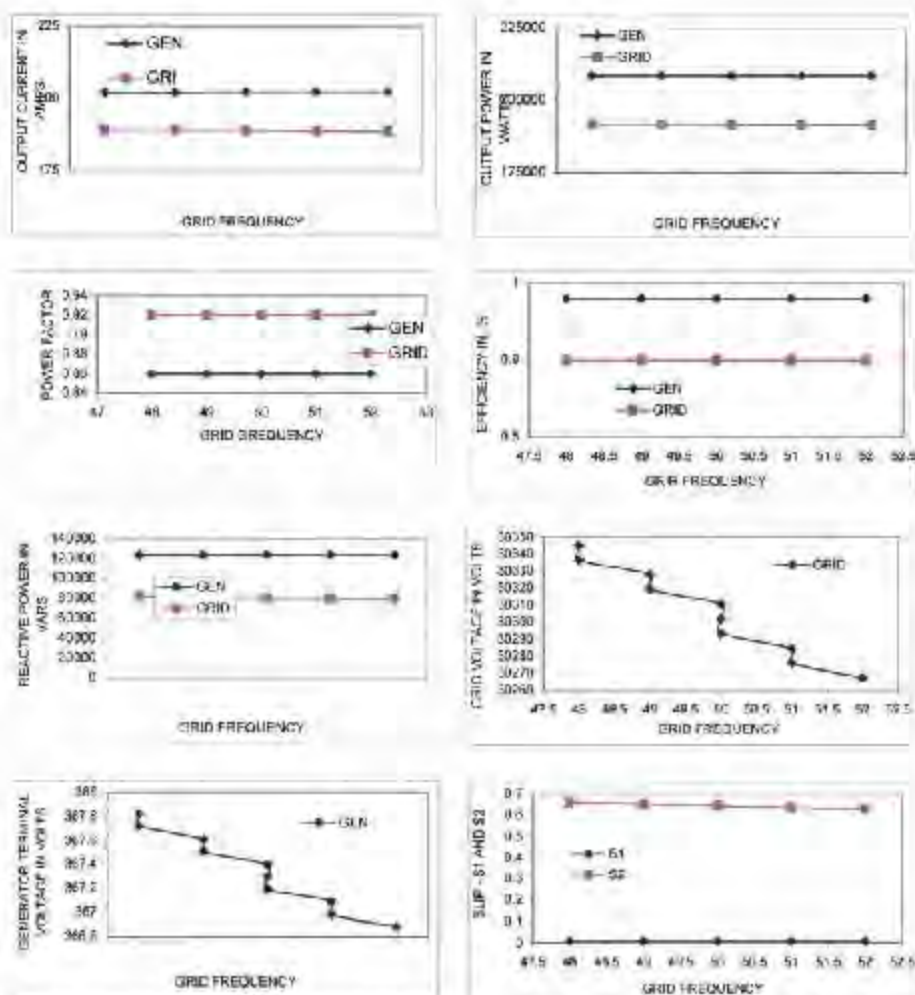

Fig. 8: 225 KW Grid Connected Windelectric Generator at Variable Grid Frequency at Constant Voltage and Input Wind Power
- Variation of the dependant parameters with grid frequency keeping the input wind power and generator voltage constant. The following behavior is observed & plotted with rise in frequency as shown in Fig. 8. As the frequency increases, current decreases, power output slightly increases. Reactive power reduces and power factor increases and efficiency remains constant.